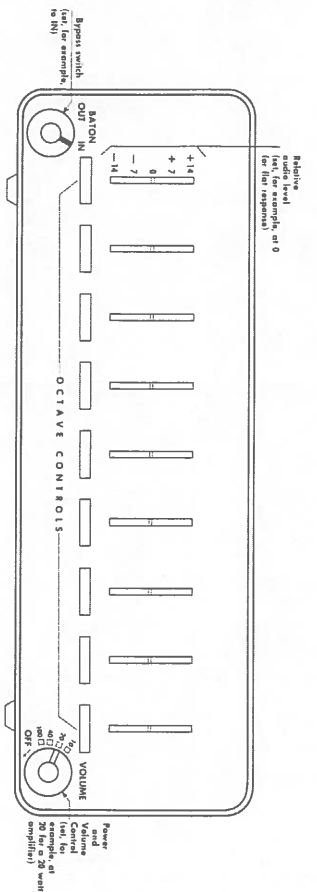

Fig. 3
2.3 Initial Control Settings of Audio Baton: (See Examples in Fig. 3 and 4).
2.5 Final Control Settings of Audio Baton: (See examples in Fig. 3 and 4.)